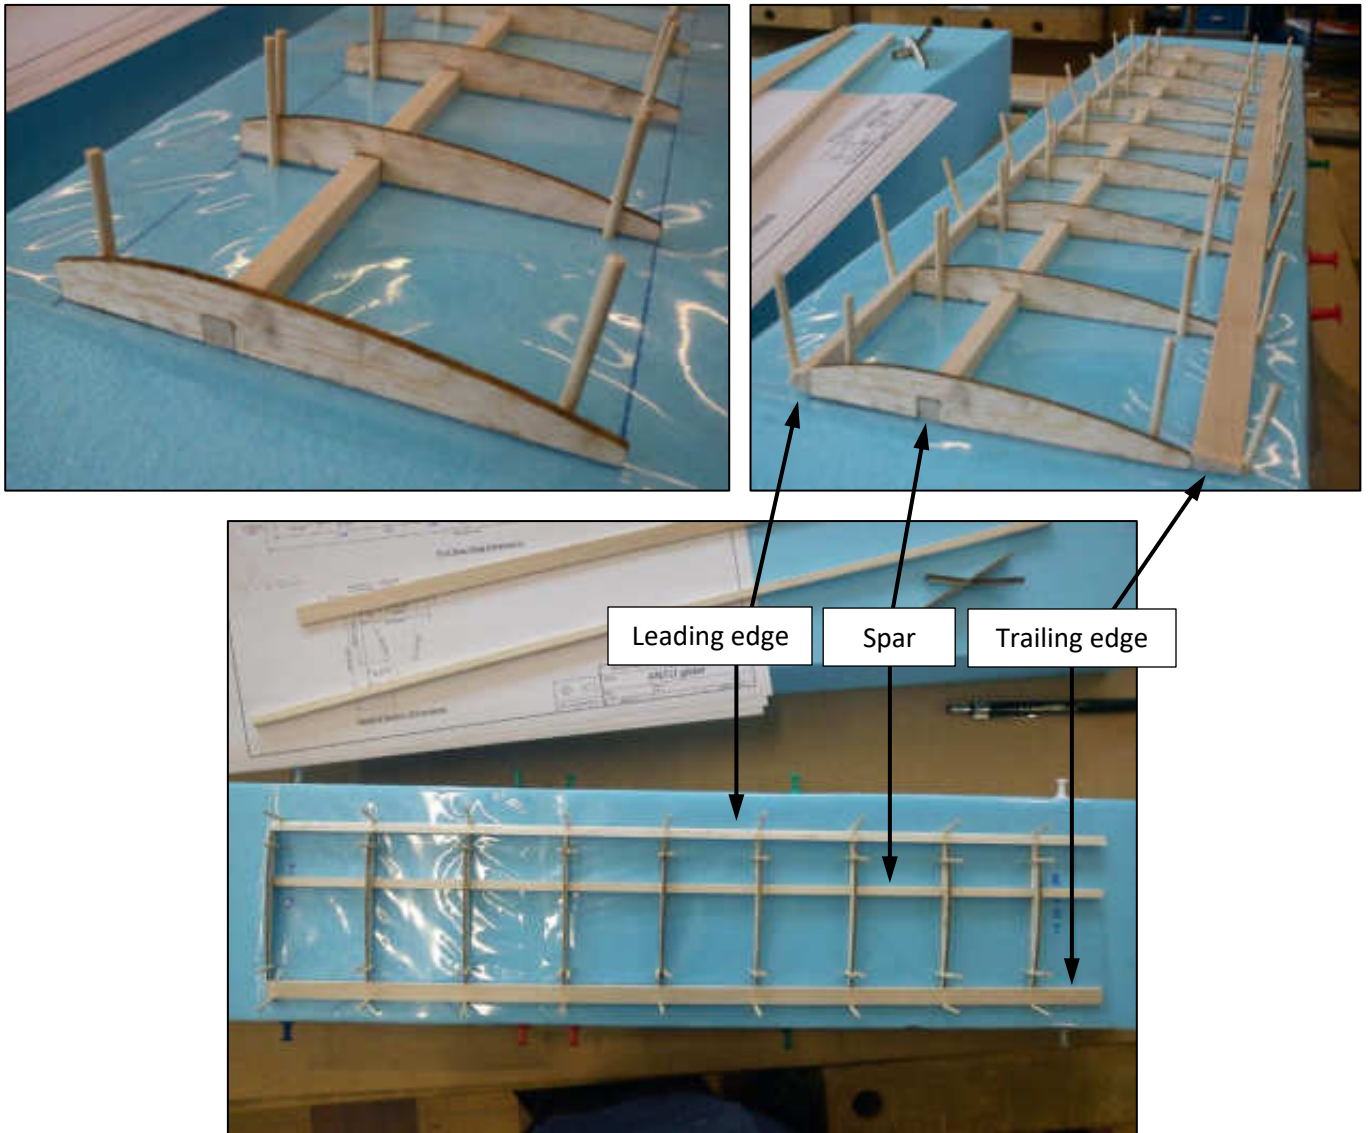

Figure 3: Positioning the spar and leading and trailing edges.
3. Use more cocktail sticks to locate the leading edge, the spar and the trailing edge, Figure 3.